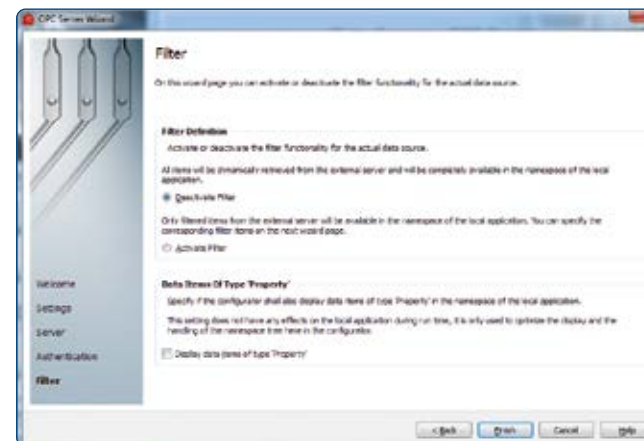

Figure 77: ending the valid bridge configuration.
11. Finish the valid bridge configuration without further adjustments (Figure 77).